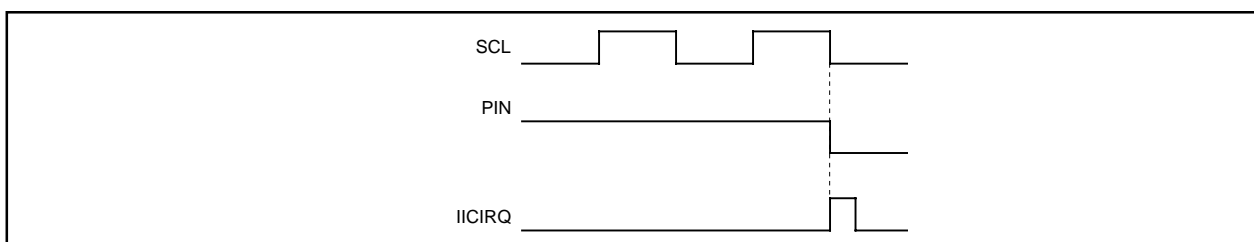

Fig. 2.11.41 Interrupt request signal generation timing
This bit generates an interrupt request signal. Each time 1-byte data is transmitted, the state of the PIN bit changes from "1" to "0." At the same time, an interrupt request signal is sent to the CPU. The PIN bit is set to "0" in synchronization with a falling edge of the last clock (including the ACK clock) of an internal clock and an interrupt request signal occurs in synchronization with a falling edge of the PIN bit. When detecting the STOP condition in slave, the multi-master I2C-BUS interface interrupt request bit (IR) is set to "1" (interrupt requested) regardless of falling of PIN bit. When the PIN bit is "0," the SCL is kept in the "0" state and clock generation is disabled. Figure 2.11.41 shows an interrupt request signal generating timing chart.